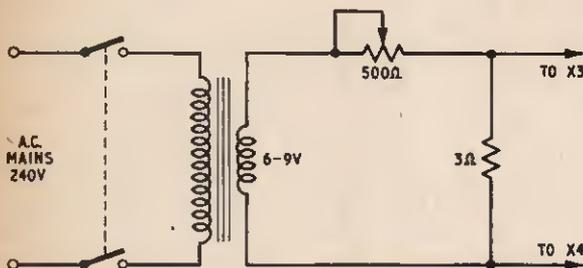

Fig. 6. Suggested circuit for providing a 50c/s calibration signal
- S2 3 poles 4-way rotary wafer switch (see Fig. 6 for style to fit component board)
is shown in Fig. 6. In order to arrange a signal source of 100mV a.c. any mains transformer capable of giving 6-9V at 30mA may be used.